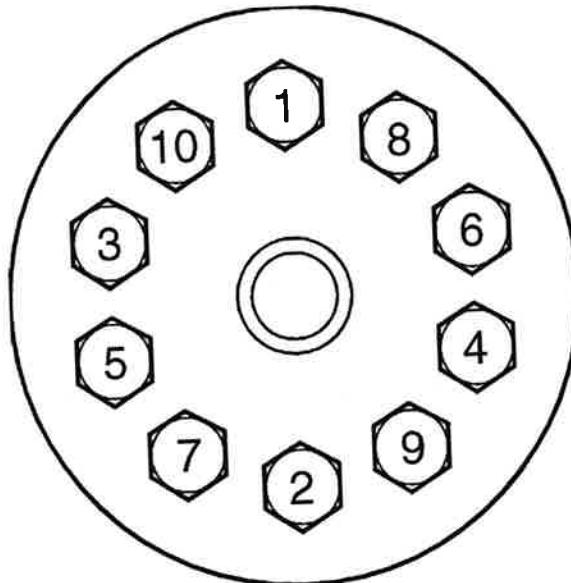

FIGURE 1 - WHEEL NUT TIGHTENING SEQUENCE
- 8.1.14 Snug the nuts to 100–200 ft-lbs. using a $\frac{1}{2}$ " (maximum) air impact gun following the sequence shown in Figure 1. Do not exceed 200 ft-lbs.
- 8.1.15 A standard calibrated torque wrench must be used to achieve a final torque of 450 ft lbs. Using Figure 1 as a reference for the proper wheel nut tightening sequence.